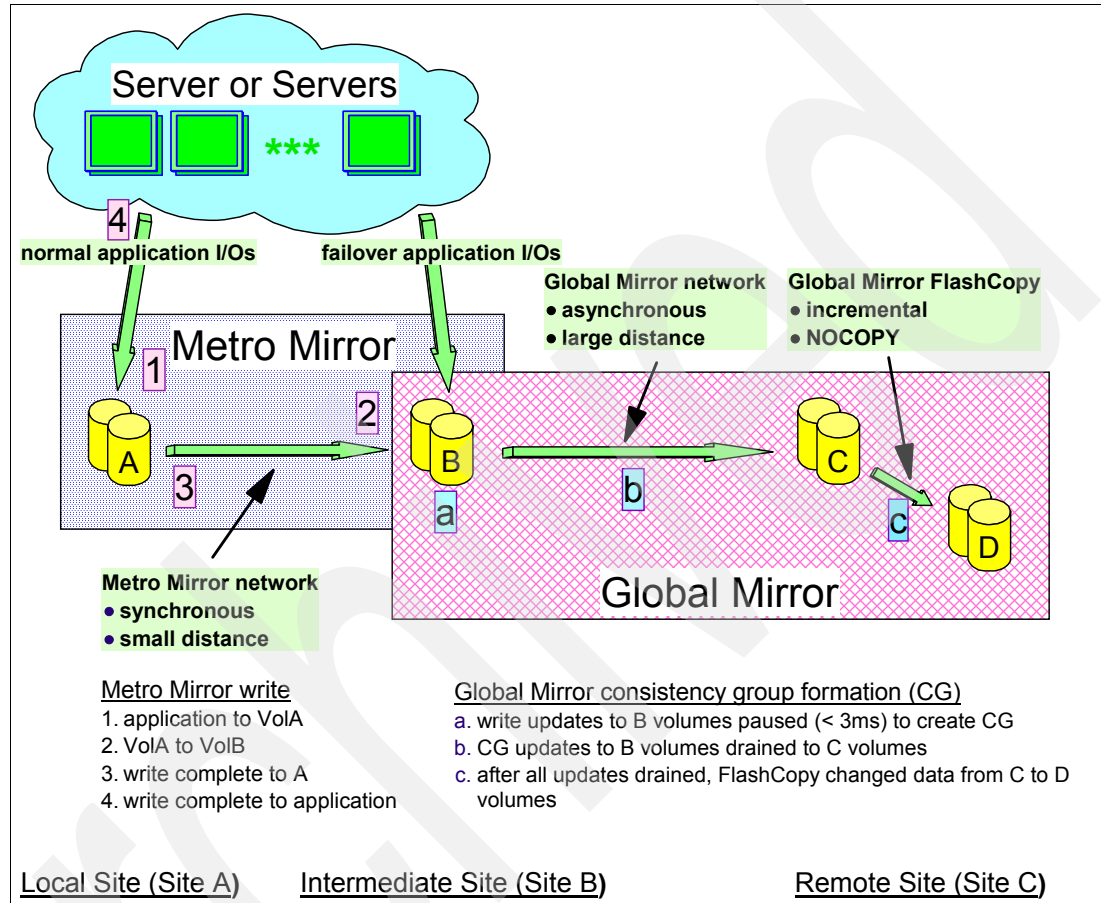

Figure 6-14 Metro/Global Mirror overview diagram
Figure 6-14 gives an overview of the Metro/Global Mirror process. The Metro/Global Mirror process is better understood if the components' processes are understood. One important consideration is that the intermediate site volumes (site B volumes) are special, because they act as both Global Mirror (GM) *source* and Metro Mirror (MM) *target* volumes at the same time.